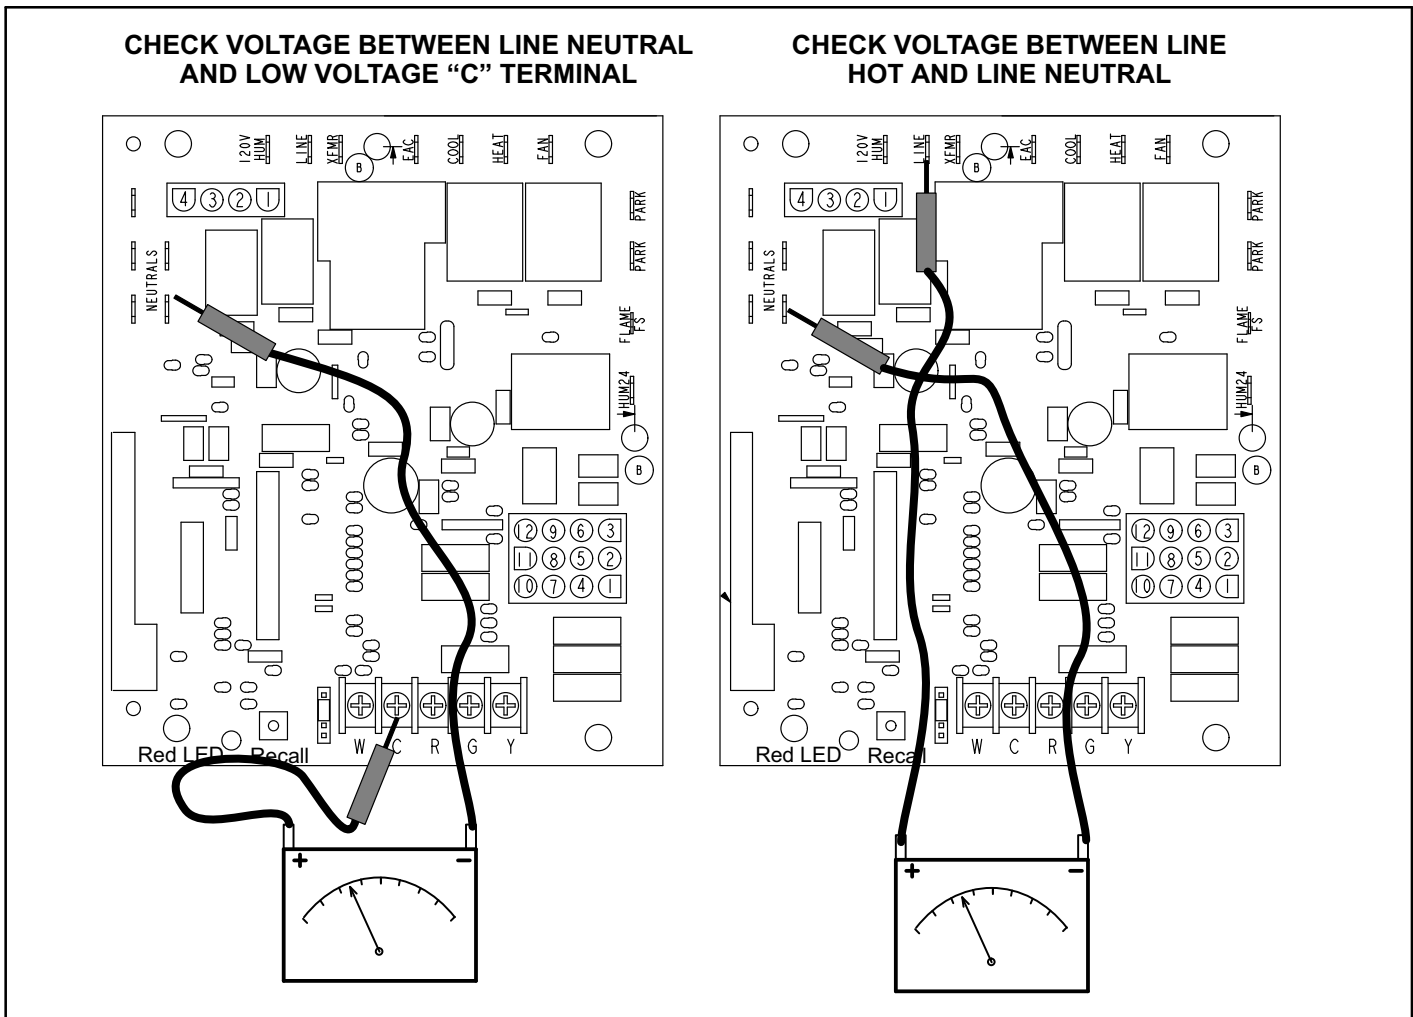

FIGURE 58
- 1 - Measure the AC voltage between Line Neutral (spade terminals) and "C" terminal (low voltage terminal block) on the integrated control. See figure 58. A wide variation in the voltage between Line Neutral and "C" as a function of load indicates a poor or partial ground. Compare the readings to the table below. If the readings exceed the maximum shown in table 1, make repairs before operating the furnace.
- 2 - In addition, measure the AC voltage from Line Hot to Line Neutral (spade terminals) on the integrated control. See figure 58. This voltage should be in the range of 97 to 132 Vac